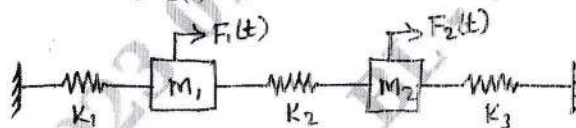

Fig.Q7
- 7 Determine natural frequency and modes of vibration for the system shown in Fig.Q7. Also determine the steady state response.